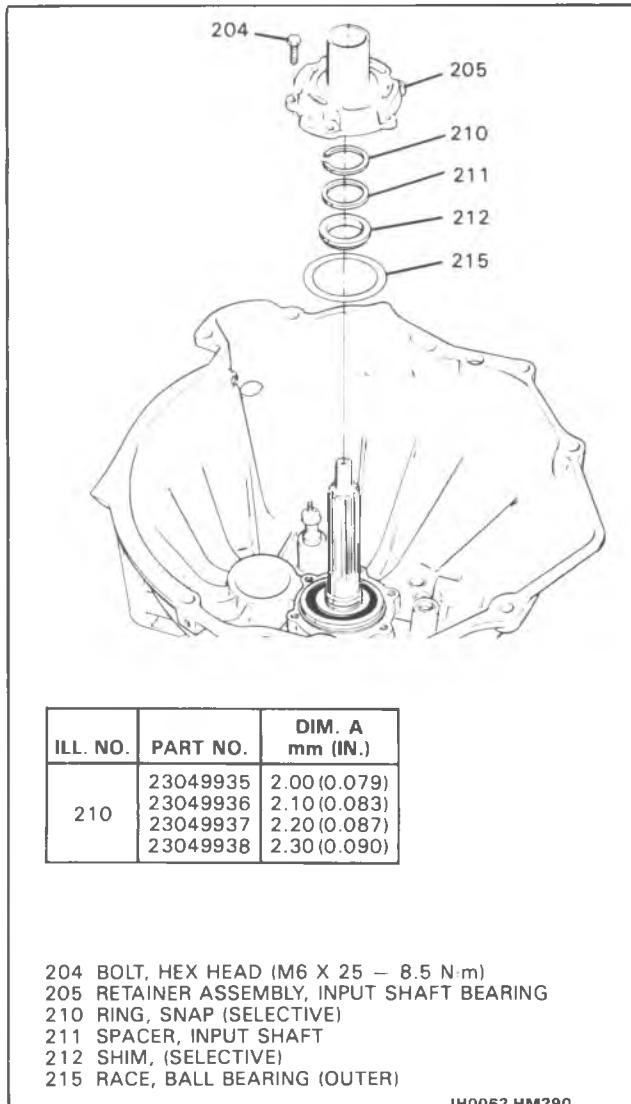

Figure 97 Input Shaft Bearing Retainer Assembly Install
- Bring housing straight down. If resistance is felt at about 1/4 inch then the roller(s) (218) or (203) are cocked, repeat steps 12, 13 and 14. DO NOT FORCE DOWN THE HOUSING.
15. Two dowels (321).
16. Bolts (312).
17. Ball bearing (outer) race (215), input shaft spacer (211) and NEW selective snap ring (210) (Figure 97).